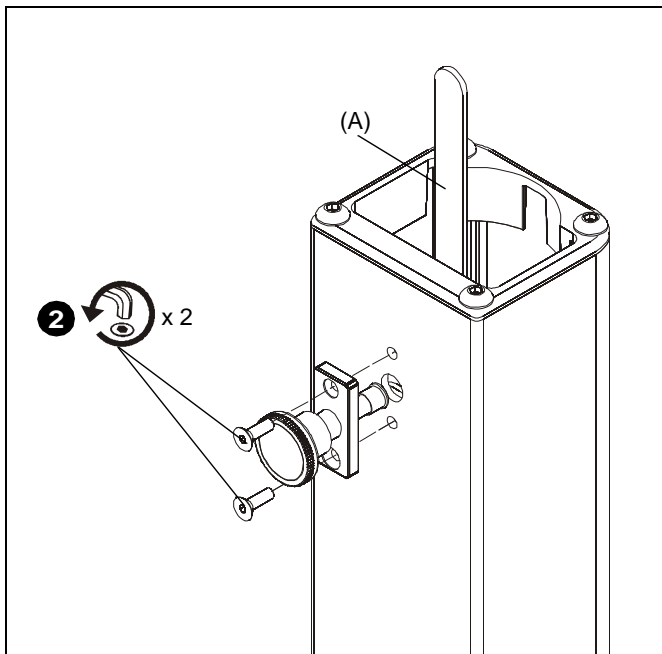

Figure 5
2. Use 1/8" hex key (B) to remove knob from column while holding onto cart knob removal wrench (A). (See Figure 5)